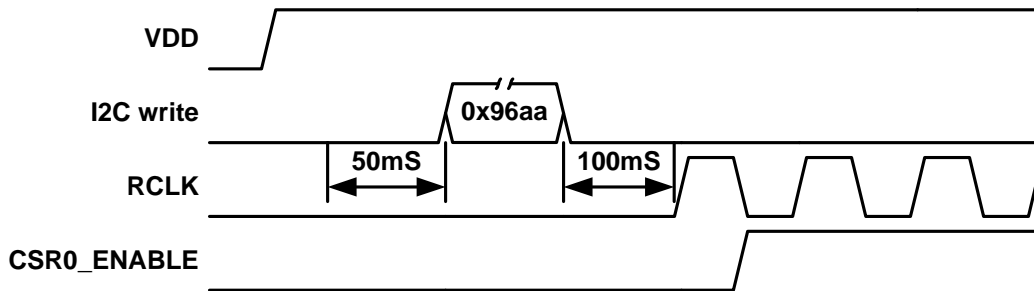

Figure 2. Initialization sequence
The initialization sequence can be referenced in Figure 2.
4. Set CSR0_ENABLE bit high and CSR0_DISABLE bit low to power up device. Normal software operation should not be performed until the completion of power-up time defined in Figure 2.